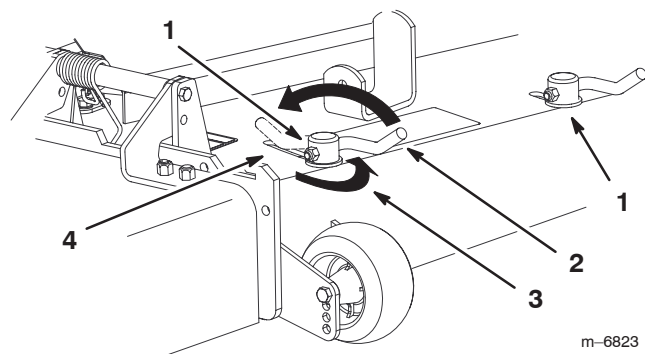

Figure 16
1. To adjust the cam locks, swing the lever up to loosen the cam lock (Fig. 16).